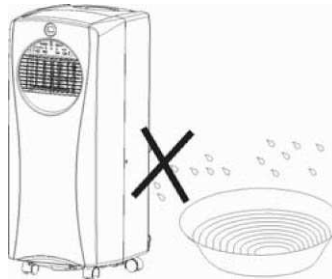

FIG.3
- Do not use in humid or wet environments. (fig 3)